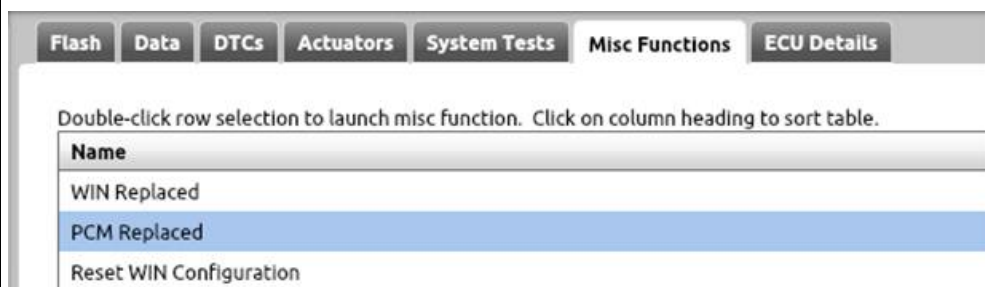

Figure 6
6. Select the Misc. Function tab and select PCM Replaced procedure (Figure 6).